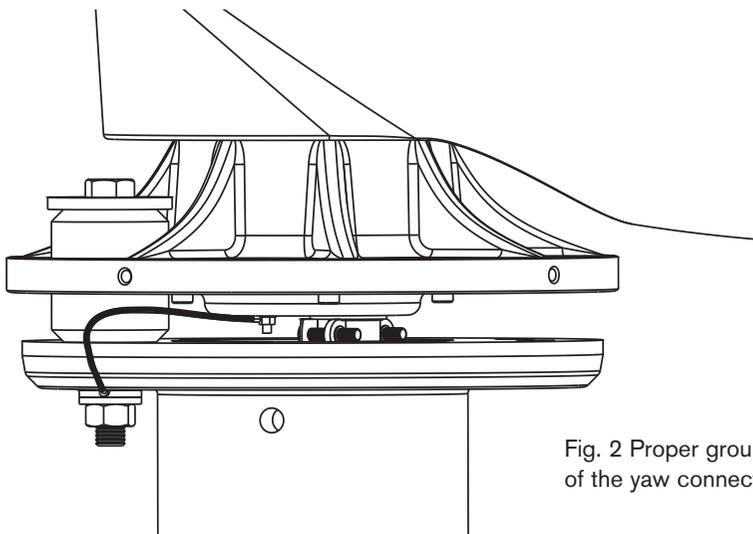

Fig. 2 Proper grounding of the yaw connection
- Connect the turbine ground wire as depicted in **Fig. 2**. The turbine **MUST** be grounded to the tower as shown.